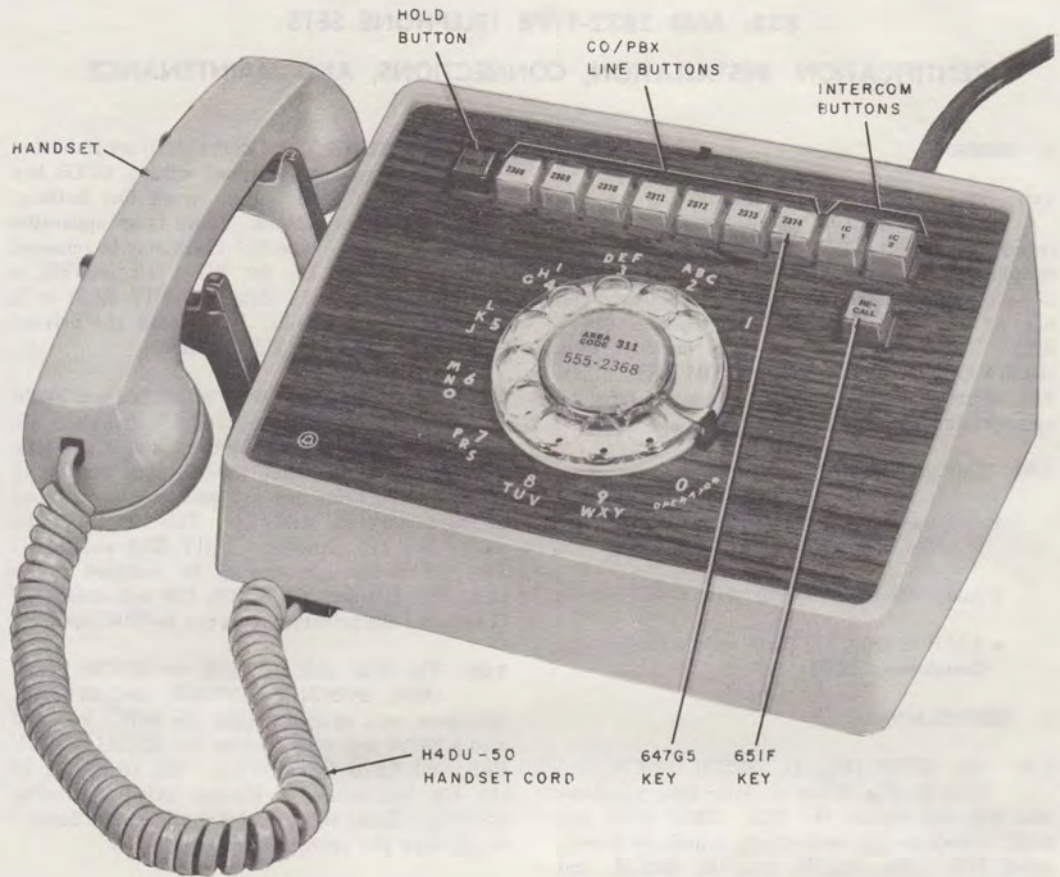
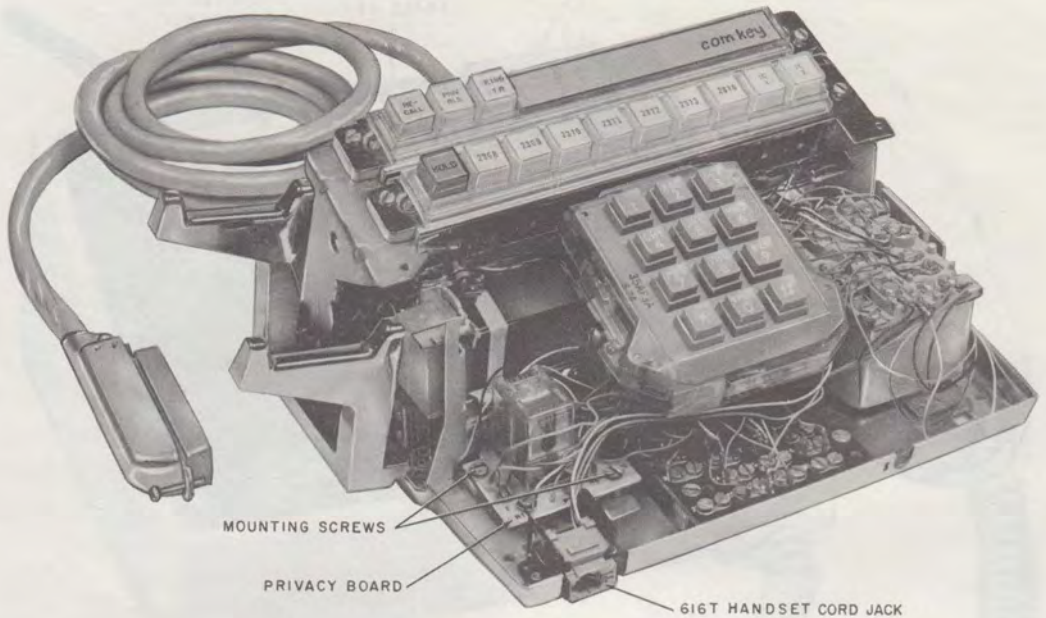

Fig. 1—832BM Telephone Set
Fig. 3—2832CM Telephone Set Base
**2.01** The 832BM (Fig. 1), 2832BM, 832CM, and 2832CM (Fig. 2) are modular type telephone sets and will replace the 832B, 2832B, 832C, and 2832C telephone sets, respectively, which are hereby rated MD. The 832DM, 2832DM, 832EM, and 2832EM are also modular sets and are electrically and functionally equivalent to the 832BM, 2832BM, 832CM, and 2832CM sets, respectively, except that they have been adapted for wall mounting. The modular sets will all be equipped with a G15A-50 handset and H4DU-50 handset cord which will plug into a 616T jack mounted on the left front of the telephone set base (Fig. 3). Current production models of these sets also are equipped with an improved line switch and an improved Automatic Button Restoral (ABR) feature. Some early production BM and CM sets were not so equipped.
(1) Mount privacy circuit board on the two standoffs located at left front of the telephone set base (Fig. 3).